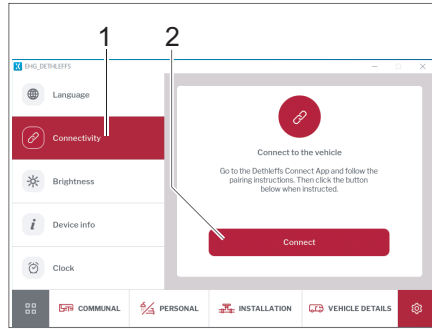

Fig. 298 Connecting via the System Control Display
- Click on the *Connection* (Fig. 298,1) button. A notification will appear to explain how your mobile device can be connected to the vehicle.
- Click on the *Connect* (Fig. 298,1) button. Your vehicle and mobile device are now paired.